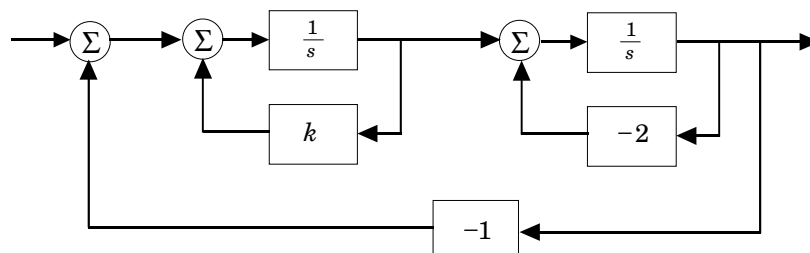

Figure 7.4 Feedback system with stability depending on k .
7.2 For what values of k is the closed-loop system in Figure 7.4 stable?